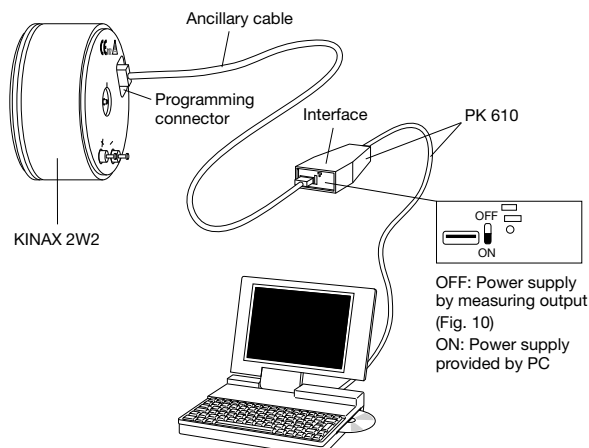

Fig. 7. Connection diagram programming
Angular position transmitters of the KINAX 2W2 range do not require a mechanical zero position mark (however, this is made if required by the customer). After mounting, the transmitter can be moved to any position and configured using the 2W2 software. A power supply connection to the KINAX 2W2 is not required in order to use the 2W2 configuration software (Fig. 7; AUX switch on the PK 610 in the ON position).
1. Mount the angular position transmitter and mechanically connect it to the object to be measured. Connect the KINAX 2W2 to the programming device according to Fig. 7. Start the 2W2 configuration software. If necessary, configure the device with the required measuring range data.
1. Put the transmitter into operation and connect the programming device according to Fig. 7 (AUX switch on the PK 610 in the OFF position).